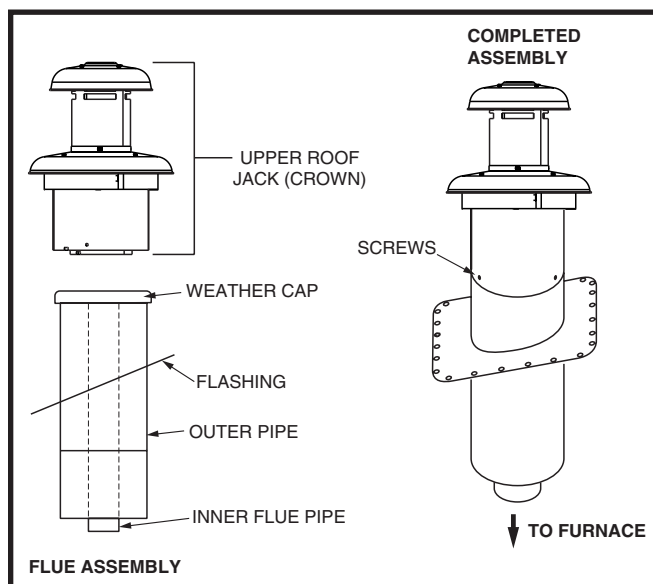

Figure 24. Roof Jack Crown
1. Transit-mode weather cap to be removed and upper roof jack crown installed. **Do not discard the screws.** See Figure 24.